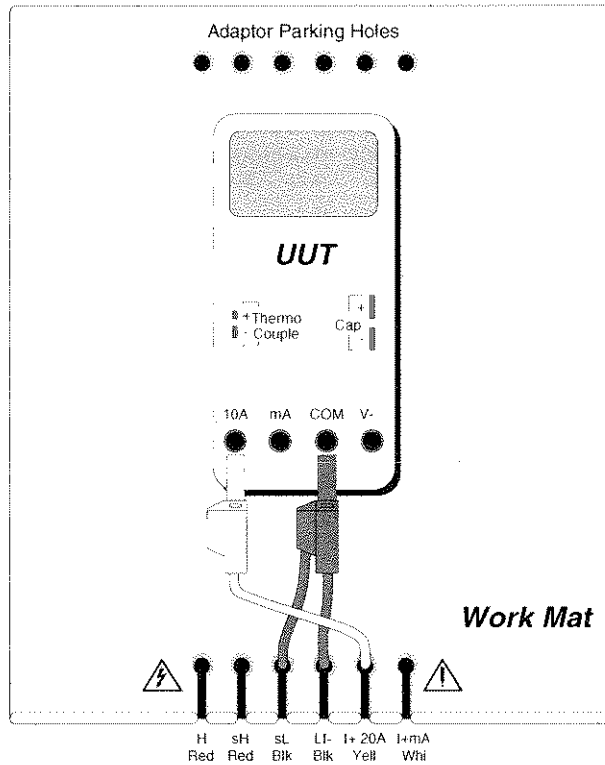
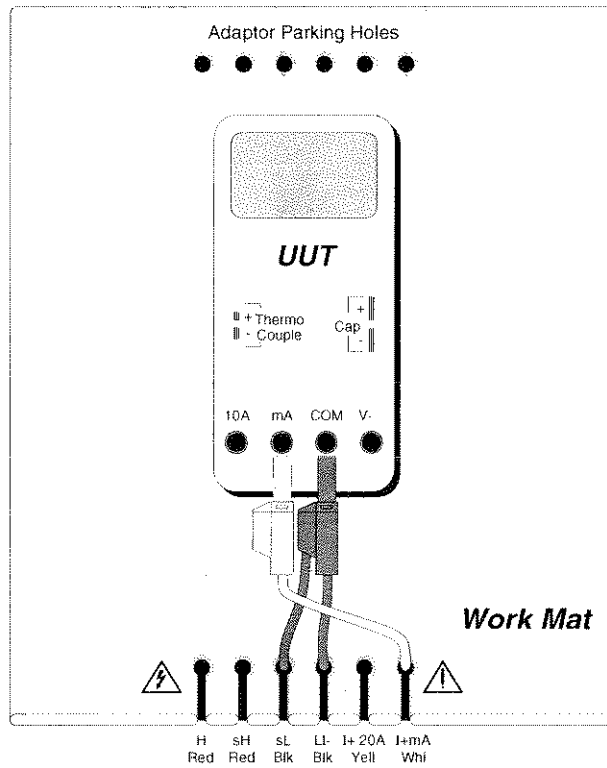
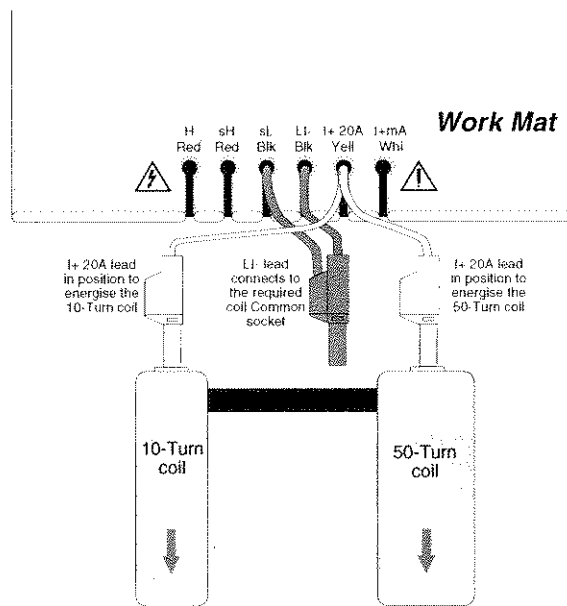

Fig. 6.1
Fig. 6.2
Fig. 6.3
The general connection schemes for UUT calibration of AC Current Function are illustrated in *Figs. 6.1, 6.2 and 6.3.*
Connect the 9100 to the UUT as shown in *Fig. 6.1, 6.2 or 6.3/4/5*, and ensure that both instruments are powered ON and warmed up.
a. Use the front panel controls to set the 9100 Output to the UUT cal point frequency, current and output form (SELECT OUTPUT key). Reconnect (*Fig 6.1, Fig 6.2, or Fig 6.3/4/5*) as required.
Connect the 9100 to the UUT as shown in Fig. 6.1, 6.2 or 6.3/4/5, and ensure that both instruments are powered ON and warmed up.
- a. Use the front panel controls to set the 9100 Output to the UUT cal point frequency, current and output form (SELECT OUTPUT key). Reconnect (Fig 6.1, Fig 6.2, or Fig 6.3/4/5) as required.